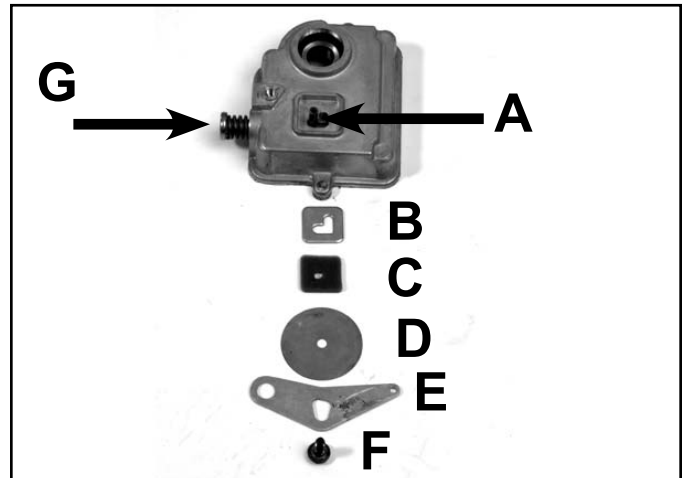

Fig 015
14. Remove the screw from the shift arm and remove the shift arm, dust cover, and wear plate (Fig. 015). If the ball bearing is to be replaced, press it out at this time.